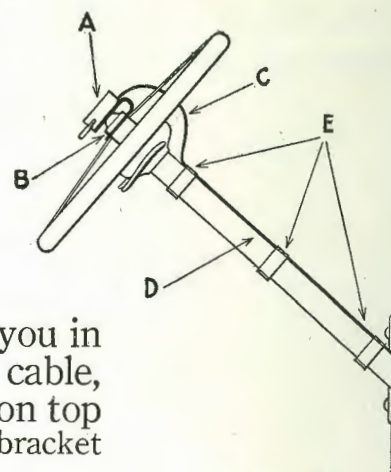

Fig. 1
The VAN SICKLEN DIMMER AND INTENSIFIER comes to you in two units; first, the switch to which is attached the three-wire cable, and second, the resistance unit. Mount the switch (A in Fig. 1) on top of the steering post by removing the hexagonal nut (B) placing the switch bracket over threaded end of the steering post and replacing the nut.